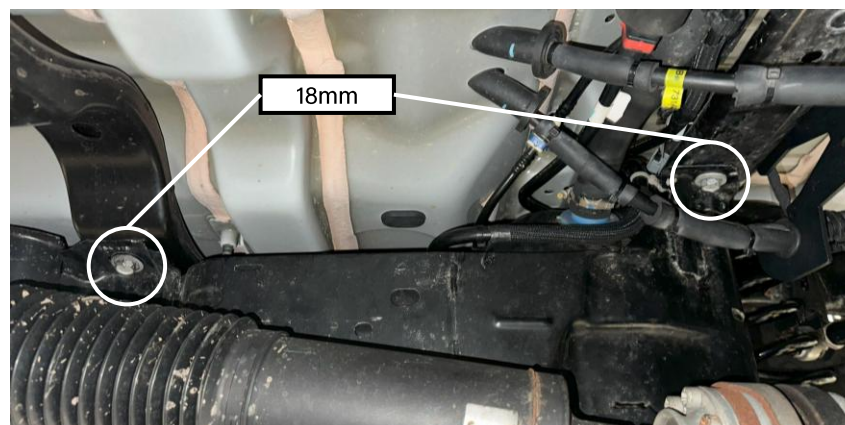

Figure 16: (2 of 6) gas tank bolts
- ❑ Remove the (6) bolts holding the gas tank in place and **slowly lower the tank 3-4 inches using the supporting jack stands**. You'll find 3 bolts on the frame rail, 1 on the front cross member, and 2 on the side closest to the driveshaft (Figure 16)